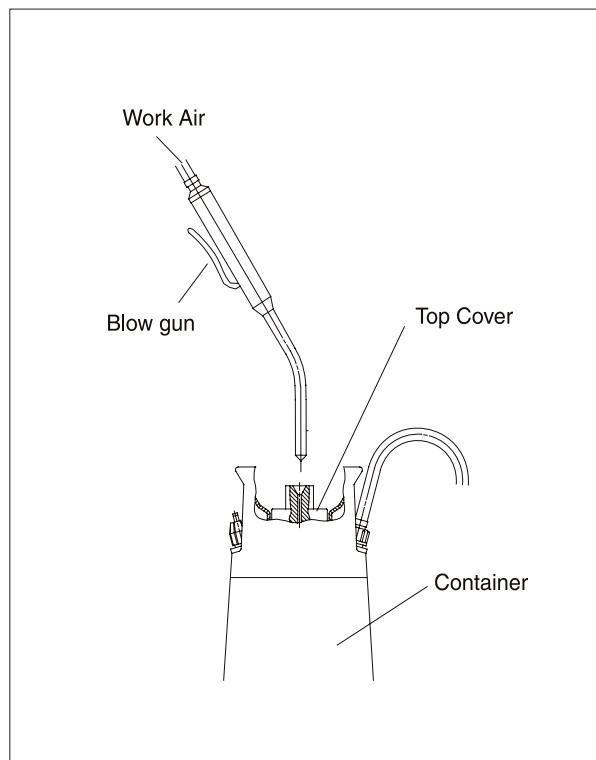

Fig 2
5) Blow air into the container by means of a blow gun, until an operation pressure of 3 bar is reached (see fig 2).